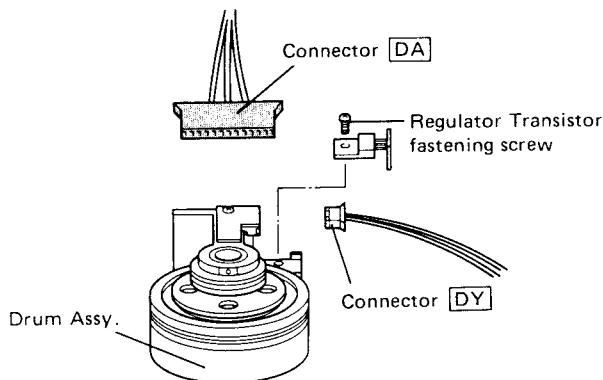

Fig. 3-5
- 3) Remove the Regulator Transistor fastening screw as shown in Fig. 3-5 and remove the Regulator Transistor.
- 6) Reconnect connector **[DY]** as shown in Fig. 3-5.